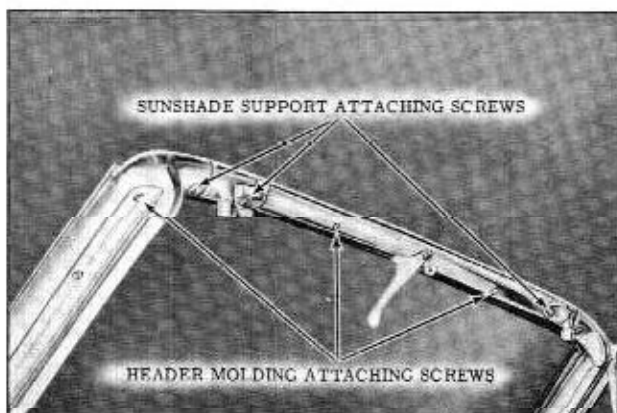

Fig. 15-5 Garnish Molding ("67" Styles)
2. Remove rear view mirror support; then remove upper moldings. On "67" styles raise top, remove sunshade support; then remove end and center moldings. (Fig. 15-5)